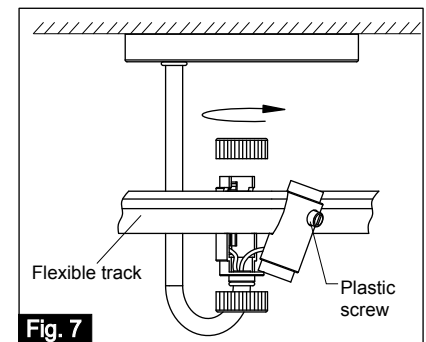
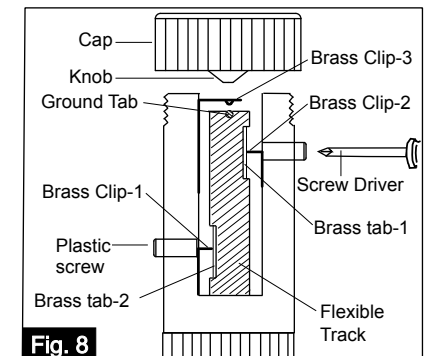

Fig. 7
Fig. 8
5. Attach the flexible track onto the slot of the connector. (See Fig 7) The brass clips of the connector must be connected with the brass tabs and ground tab of the track. (See Fig 8) **(CAUTION: To ensure the light works, correctly make sure the connection of the connector and the flexible track is correct.)** Attach both halves of the connector together and then screw the caps and plastic screws on tightly.